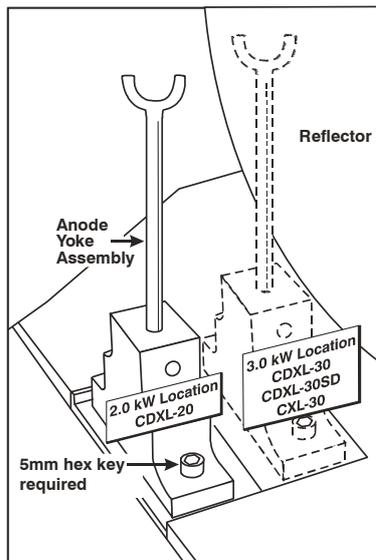

Figure 2-9 Anode Yoke Position
- 2. Position anode yoke assembly according to lamp type.** Check the position of the anode yoke assembly for the lamp type that will be used in the projector. Table 2.1 lists all available lamp types for the CP2220 and the position of the anode yoke assembly. (Figure 2-9)